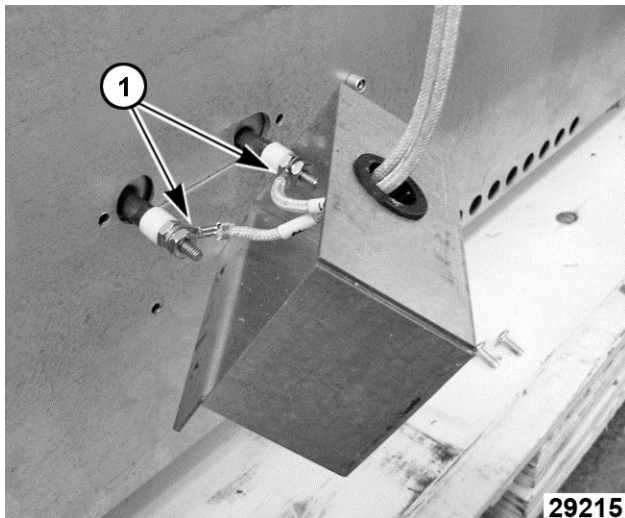

Fig. 18
3. Disconnect lead wires from element terminals (1, Fig. 18).